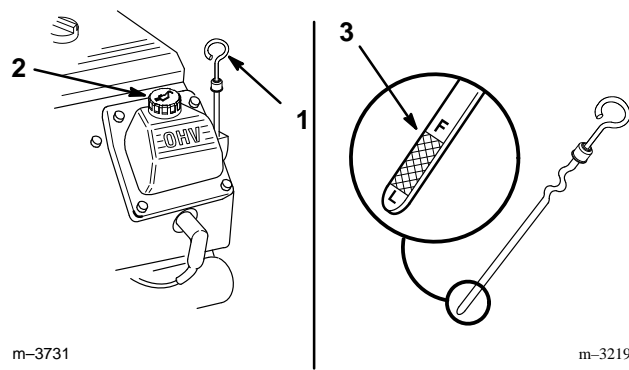

Figure 16
2. Clean around the oil dipstick (Fig. 16) so dirt cannot fall into the filler hole and damage the engine.
3. Unscrew the oil dipstick and wipe the metal end clean (Fig. 16).
4. Slide the oil dipstick fully into the filler tube, do not thread onto tube (Fig. 16). Pull the dipstick out and look at the metal end. If oil level is low, slowly pour only enough oil into the filler tube to raise the level to the “FULL” mark.
5. Slowly pour approximately 80% of the specified amount of oil specified, page 23, into the filler tube (Fig. 16). Now check the oil level; refer to Checking Oil Level, page 23. Slowly add additional oil to bring to "FULL" mark on dipstick.